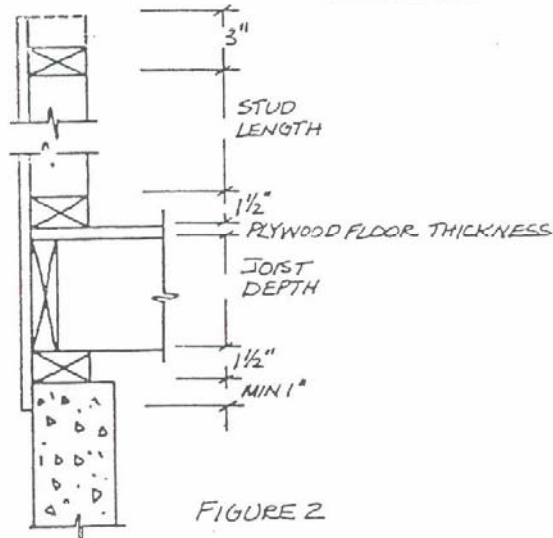

FIGURE 2
2. Cut siding panels to proper length. See Figure 2 for guide. In determining length, allow for 1 in. lap over top of foundation wall and 1 1/2 in. for covering the second top plate after wall tilt-up.